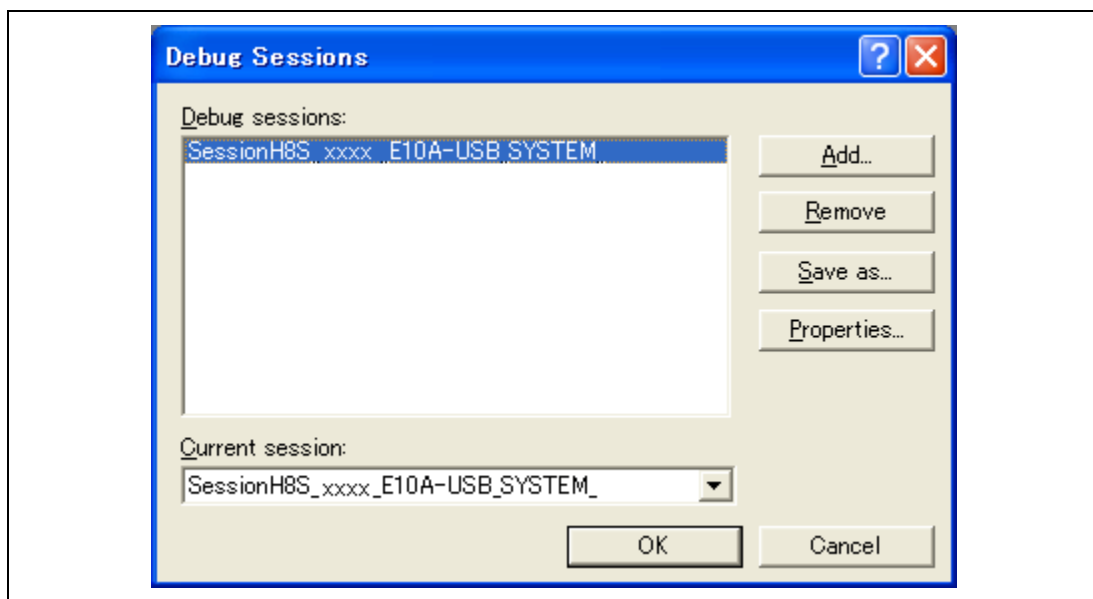

Figure 4.29 [Debug Sessions] Dialog Box
1. Select [Debug -> Debug Sessions...]. This will open the [Debug Sessions] dialog box (figure 4.29).
1. Select [Debug -> Debug Sessions...] to display the [Debug Sessions] dialog box (figure 4.29).